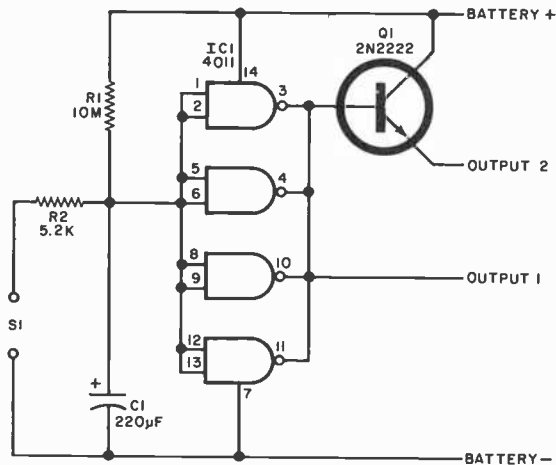

Fig. 1. Four parallel gates supply added power.
**Circuit Operation.** A schematic of the circuit is shown in Fig. 1. Resistor  $R1$  and capacitor  $C1$  provide a very long time constant. When  $S1$  is closed,  $C1$  is discharged and its low voltage is applied to the parallel high-impedance inputs of  $IC1$ . In this case the outputs of the NAND gates are high and the battery voltage is available at output 1.